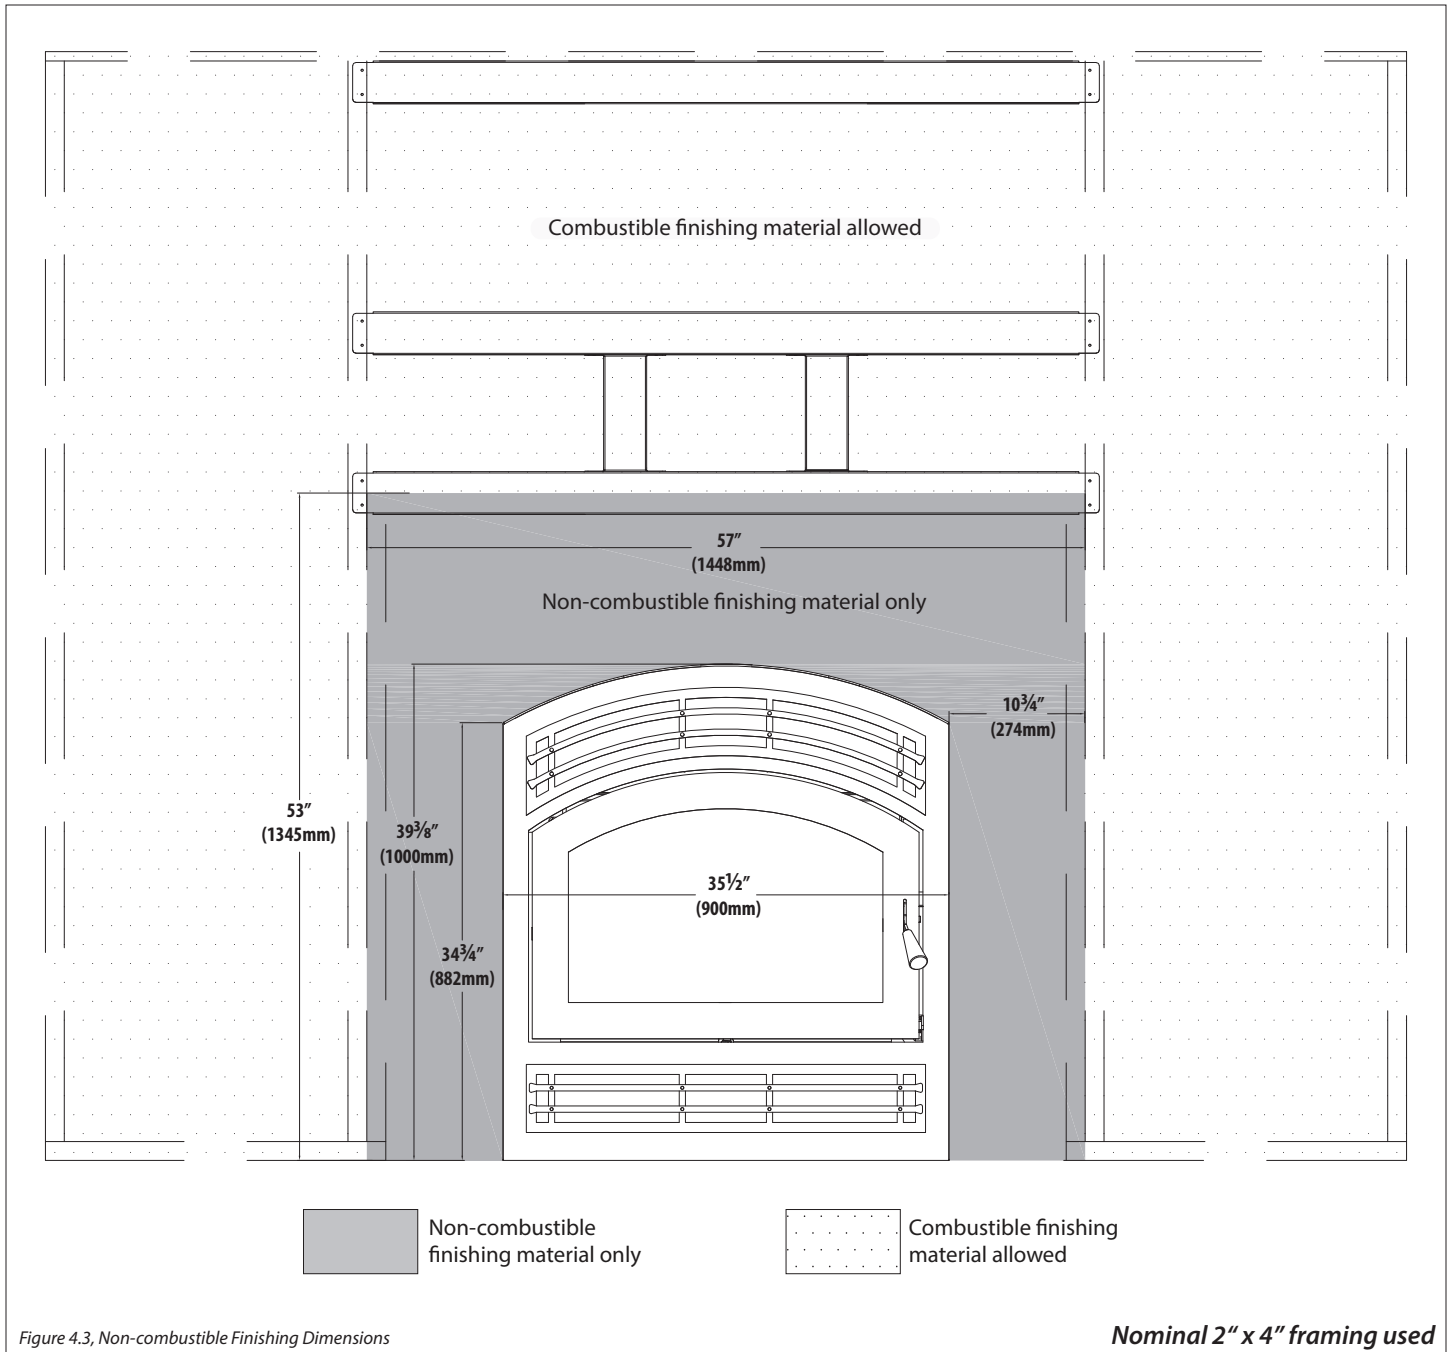

Figure 4.3, Non-combustible Finishing Dimensions
- Non-combustible material is required at the top and sides of the fireplace. See Figure 4.3, Non-combustible Finishing Dimensions on page 23.